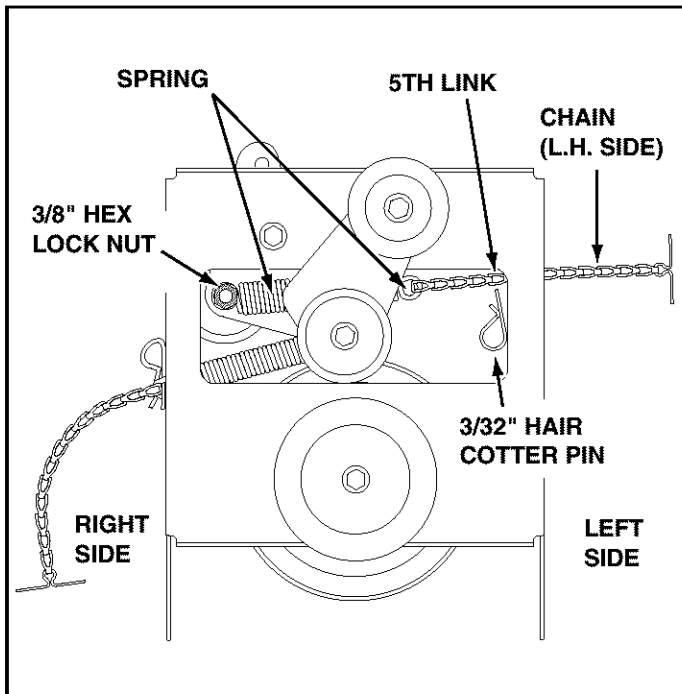

FIGURE 20
- Hook the loose spring through the end of the tensioning chain. See figure 20.
- Hook the other end of the spring onto the bottom of the bolt and nut which secure the idler pulley to the upper idler arm. Hold the bolt head and assemble a 3/8" hex lock nut onto the bolt, leaving it loose enough for the spring to pivot freely between the two nuts. See figure 20.
- Attach a 3/32" hairpin cotter to the chain, placing it in the fifth link from the spring. See figure 20.